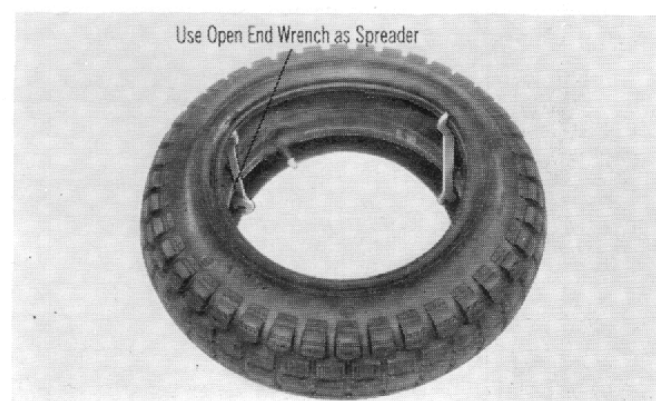

Fig. 88
- (4) Wash and clean all ball bearings. Check the bearing for wear and for roughness by rotating the bearings. Replace any defective bearings if required.
- (5) Check the brake shoe spring for loss of tension, check the oil seal for any damaged or deformed lips, and check the O ring for damages and loss of tension. Replace any defective parts if required. Inflate the tire and check for air leaks. Check the tire casing for imbedded nails, wires and other foreign objects. Use one or two spreaders to assist in the internal surface inspection of the tire. (Fig. 88)